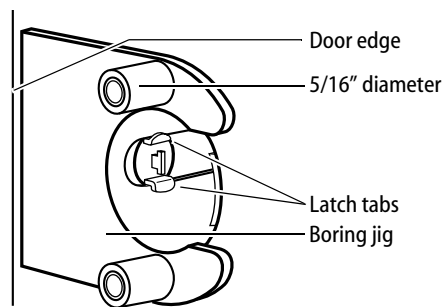

Figure 3 — Positioning the boring jig for drilling the 5/16" holes
- 4 Install the latch and check the door swing. Latch tabs should project into the 2 1/8" diameter hole. See figure 3 in task 3.
- 1 Install the boring jig (KD303) onto the door and engage with latch tabs. Make sure the front edge of the jig is parallel with the door edge (see Figure 3).